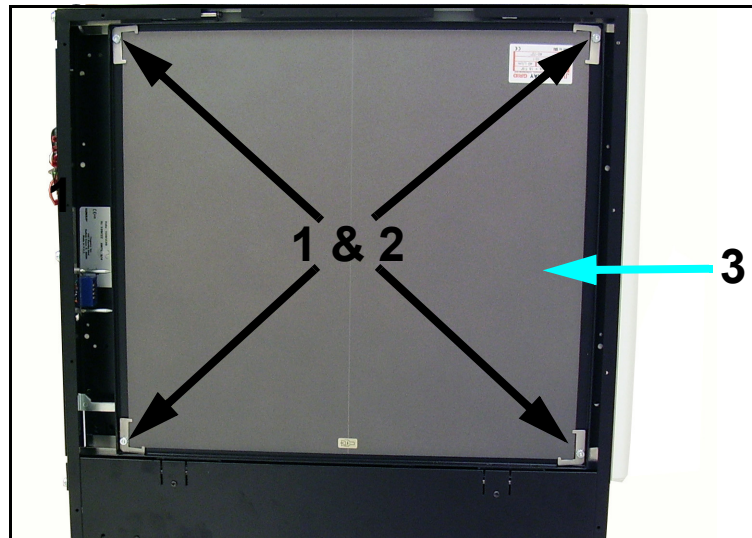

Figure 2-14. Grid
- 14** Screw the grid clamp screws (1 in Figure 2-14) and clamps (2) and grid (3). Be sure to orient the new grid so that etched center line is vertical.